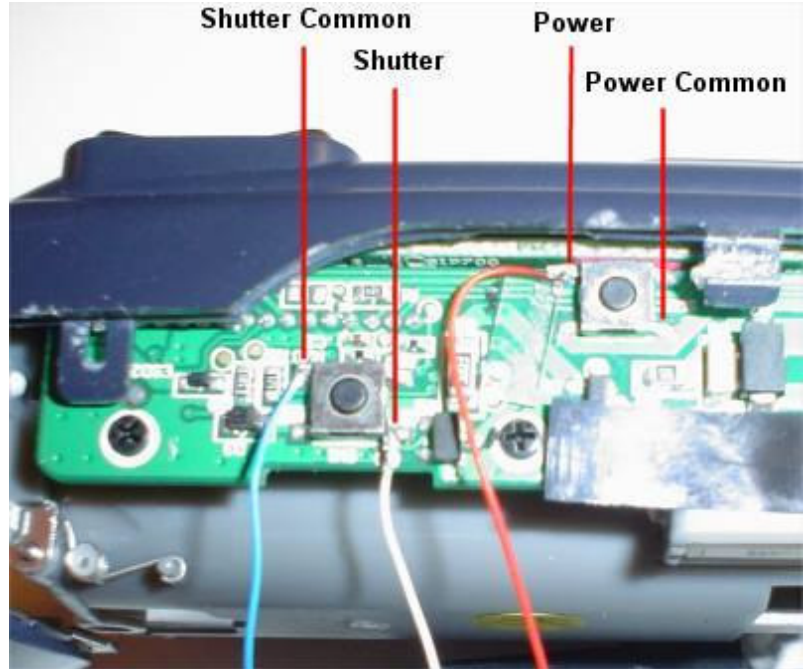

Figure 1
**Note:** There are 2 locations you can solder the “Power Common”. If you feel comfortable soldering to the small solder pads shown in Figure 1 you can solder the Green “Power Common” wire there, however, if you need a larger solder contact area use the USB Hood shown in Figure 2.